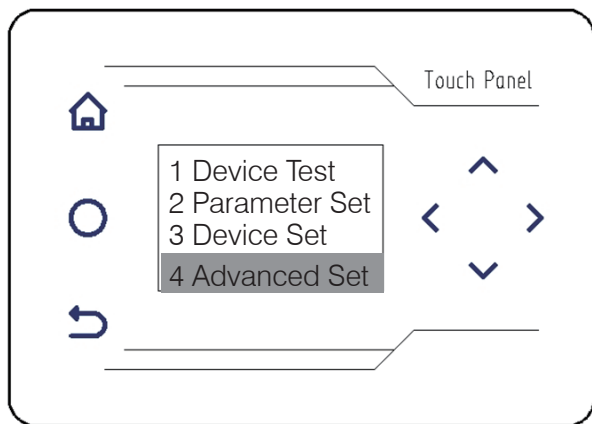
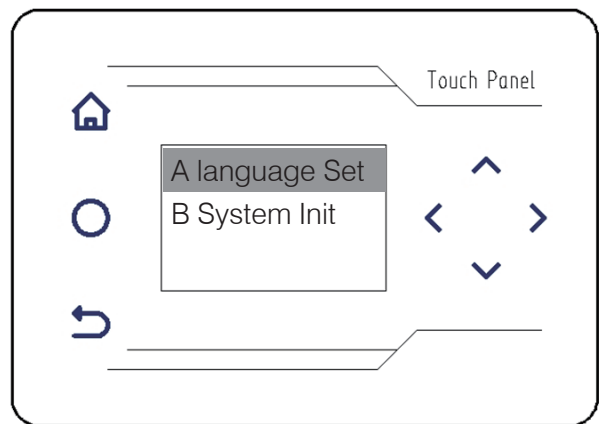

figure 43
figure 44
Press, \wedge 、 \vee add/subtract, to select "advanced Settings" (figure 43), press the \rightarrow right button, to enter the sub-menu interface. (figure 44)
A. Language setting (figure 44)
Under the sub-menu interface of "advanced Settings", press, \wedge 、 \vee add/subtract, select "initialization system" (figure 43), press the \rightarrow right button, and the system will restore the factory Settings, namely "initialization system".